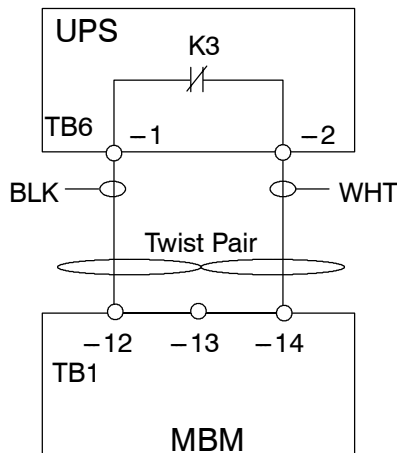

Figure 1. (Reverse Transfer)
| TB1-12 | #18-#8 (55) | TB6-1 | #18-#8 (55) | #18-#14 | 120VAC 1.0A | See Fig 1. (Twisted Pair) |